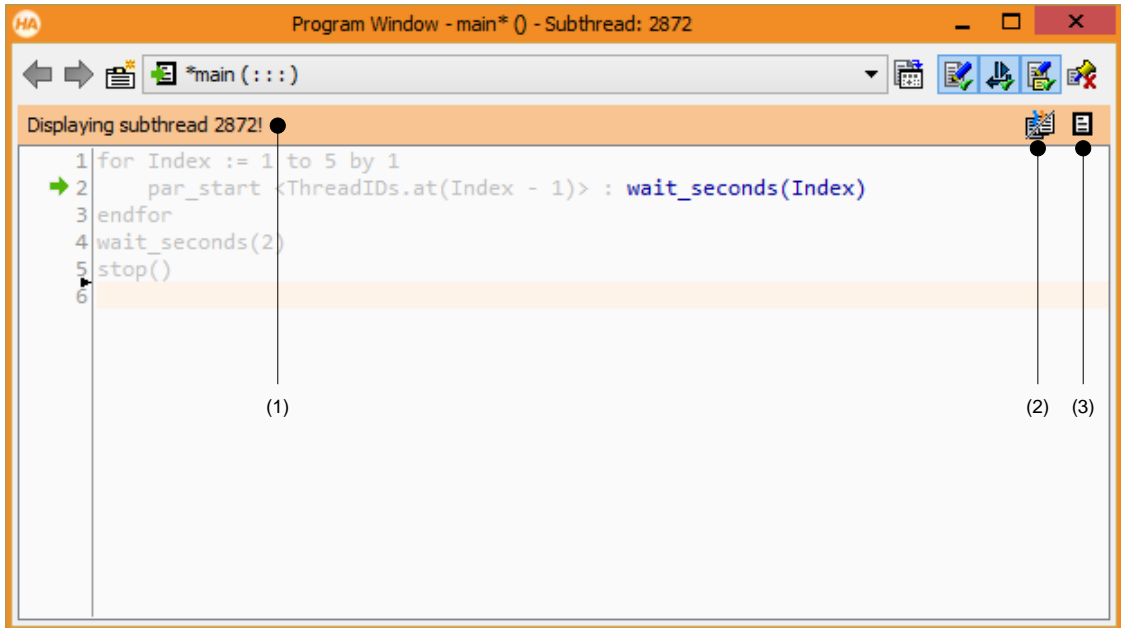

Figure 8.5: Selected subthread in the program window.
Single-stepping over a program line containing a `par_start` will initialize the corresponding thread without actually starting it. To debug a specific thread, press `[F7]` when the PC is on the corresponding `par_start` line. This will automatically make the new subthread the selected thread. If the PC is already past the invocation line, first select the thread in the thread view window. This will automatically display the correct procedure in the program window, with the PC on the first line if the thread was started by a procedure call. For threads started by an operator call like in the example above, the PC will be located on the corresponding call, and the rest of the program will be grayed out (see figure 8.5). The notification line (1) in the program window shows the thread ID of the selected subthread, and allows fast access to the thread view window (2). Clicking (3) switches back to the main thread.